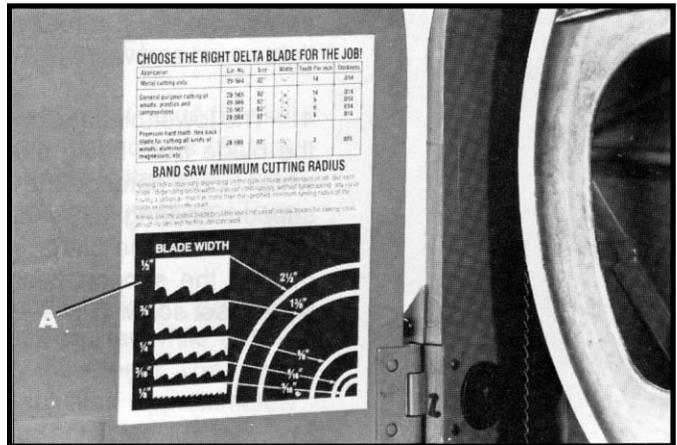

Fig. 27
Turning radius may vary depending on the type of blade and amount of set. Each blade, however, depending on its width, can cut continuously without back tracking any curve having a radius as much or more than the specified minimum turning radius of the blade, as shown in the chart (A) Fig. 27, located inside top wheel cover.